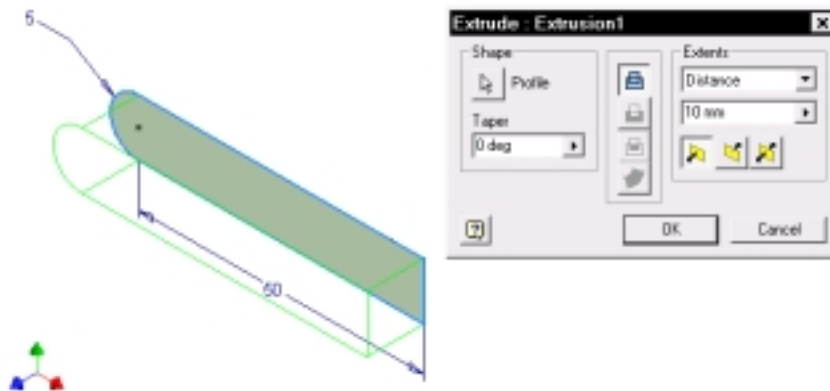

Figure 3-15
3. Extrude the sketch a distance of 10 mm. (See Figure 3-15.)